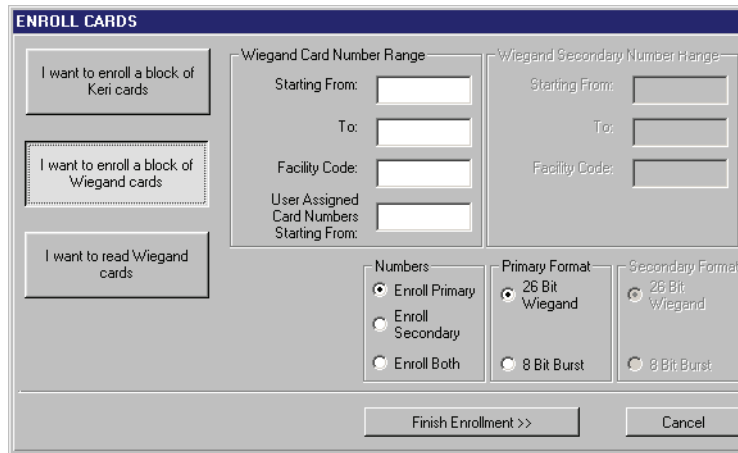

Figure 14-5: Enroll Cards - Block Enrollment
- Click on the  button. If the Doors program is not connected to the access control network, the program will automatically connect. The Enroll Cards window appears. Click on the  button. The Enroll Cards window is ready for block enrollment of Wiegand cards (see Figure 14-5).